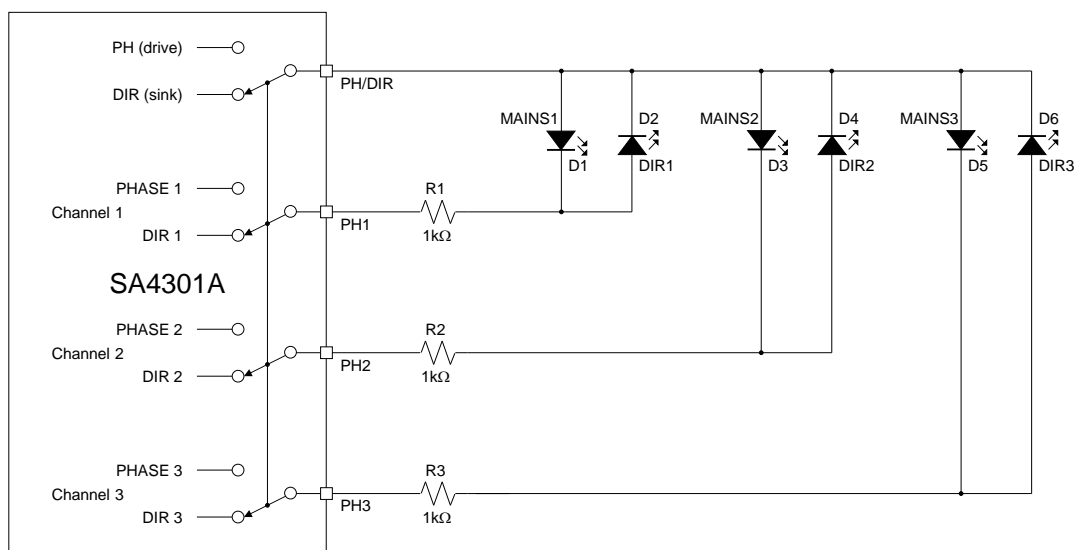

Figure 11: Multiplexing tamper LED array
The PH/DIR output enables either direction or missing phase information on the multiplexed LED driver outputs (PH1, PH2 and PH3). This output pin switches between logic 0 and logic 1 at a frequency of approximately 110Hz. A logic 0 enables energy direction information and a logic 1 enables missing phase information on the LED driver outputs. The PH/DIR output is used in conjunction with the individual LED driver outputs to display information concerning each individual channel as illustrated in Figure 11. It is also used in conjunction with the RA, RB and MS inputs to set up the SA4301A.
**PH/DIR = 1 (Voltage fail / phase sequence error):** When PH/DIR is high (logic 1) the individual channel voltage information is available on the PH1, PH2 and PH3 pins. A logic 1 on any of these pins indicates the corresponding channels voltage is missing. This is based on the SA4301A not detecting a sufficiently large input current amplitude (approximately  $1\mu A_{RMS}$ ) on the specific voltage sense input. The outputs will be set to logic 0 when the input current on the corresponding channel is larger than approximately  $1\mu A_{RMS}$  thereby indicating that the corresponding phase voltage is present. Referring to Figure 11, the voltage LED for a specific channel will be activated when the phase voltage is present and de-activated when the phase voltage is missing. A power-on reset at start-up will set the voltage fail indication for all channels to high (logic 1). Each missing phase LED will therefore be de-activated until a valid phase voltage is detected. In the case of a phase sequence error all three
positive energy flow is defined as the condition where the voltage and current input signals on a specific channel are in-phase (phase angle smaller than 90 degrees). Referring to Figure 11 the direction LED for a specific channel will be activated when the direction is negative and de-activated when the direction is positive. A power-on reset at start-up will set the direction indication for all channels to low (logic 0). The direction LEDs will therefore be turned off at start-up. Once negative energy has been detected on a specific channel the LED will turn on. If a missing phase voltage is detected on a specific channel or if the energy measured on that channel is below the anti-creep threshold the direction indication of that channel will default to logic 0, thereby also turning the direction LED of that channel off. If a phase sequence error is detected the direction outputs still indicate the energy direction detected on the specific channels.